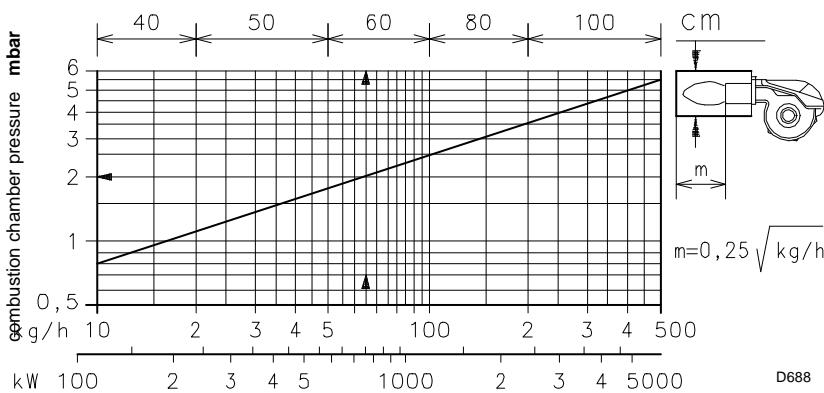

Fig. 4
3.4.1 Test boiler (Fig. 4)
Fig. 4 indicates the diameter and length of the test combustion chamber.